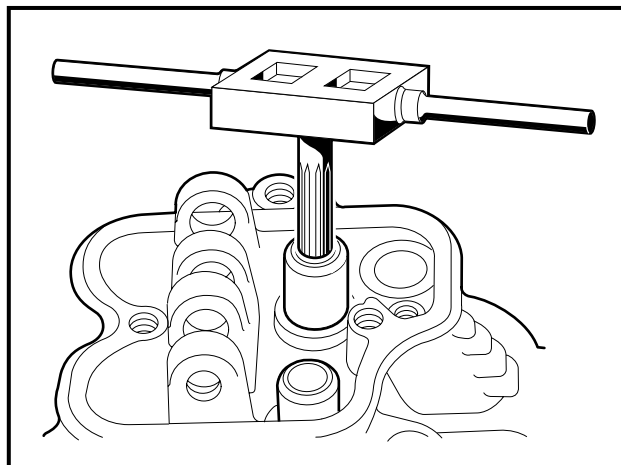

Figure 13-21 Ream Valve Guide
5. Ream the guide with a stanisol or kerosene lubricant and a valve guide reamer (Club Car Part No. 101641201). The valve guide inside diameter should be 0.2756 - 0.2762 inch (7.000 - 7.015 mm) (**Figure 13-21, Page 13-14**).